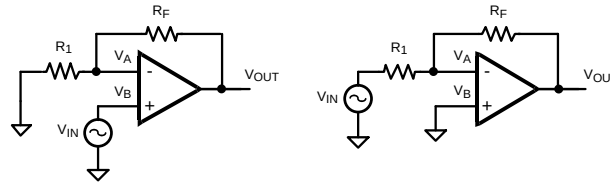
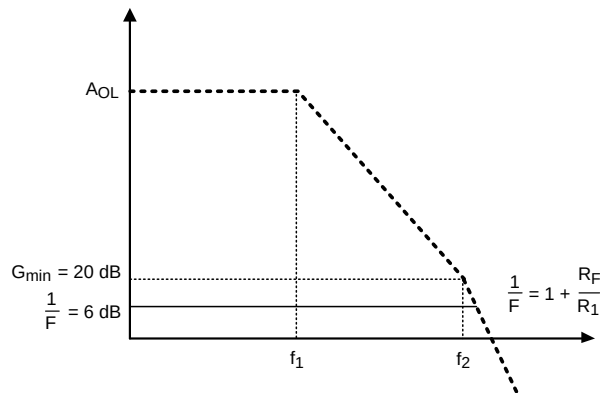

Figure 52. Op Amp with Resistive Feedback. (a) Non-inverting (b) Inverting
Figure 53. $1/F$ for $R_F = R_1$ and Open Loop Gain Plot
The feedback function (F) of arbitrary electronic circuits, as shown in Figure 52, is defined as the ratio of the input and output signal of the same circuit.
The feedback function for a three-terminal op amp as shown in Figure 52 is the feedback voltage $V_A - V_B$ across the op amp input terminals relative to the op amp output voltage, V_{OUT} . That is
The inverse feedback factor for both configurations shown in Figure 52, is given by:
If R_1 and R_F are chosen so that the closed loop gain is lower than the minimum gain required for stability, then $1/F$ intersects the open loop gain curve for a value that is lower than $G_{\min}$. For example, assume the $G_{\min}$ is equal to 10 V/V (20 dB). This is shown as the dashed line in Figure 53. The resistor choice of $R_F = R_1 = 2 \text{ k}\Omega$ makes the inverse feedback equal 2 V/V (6 dB), shown in Figure 53 as the solid line. The intercept of G and $1/F$ represents the frequency for which the loop gain is identical to 1 (0 dB). Consequently, the total phase shift at the frequency of this intercept determines the phase margin and the overall system stability. In this system example $1/F$ crosses the open loop gain at a frequency which is larger than the frequency where $G_{\min}$ occurs, therefore this system has less than 45° phase margin and is most likely unstable.
This example, represented by Figure 52 and Figure 53, is generic in the sense that the G_{MIN} as specified did not distinguish between inverting and non-inverting configurations.